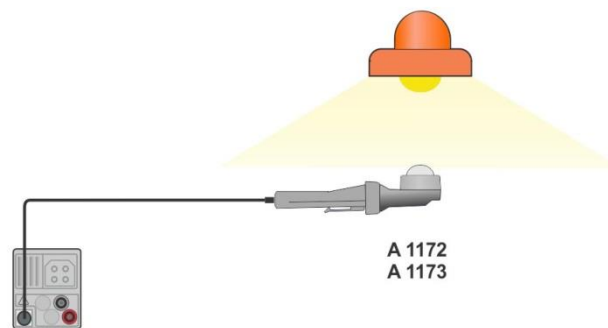

Figure 7.78: LUXmeter probe positioning
- › Take the position of LUXmeter probe, see **Figure 7.78**.